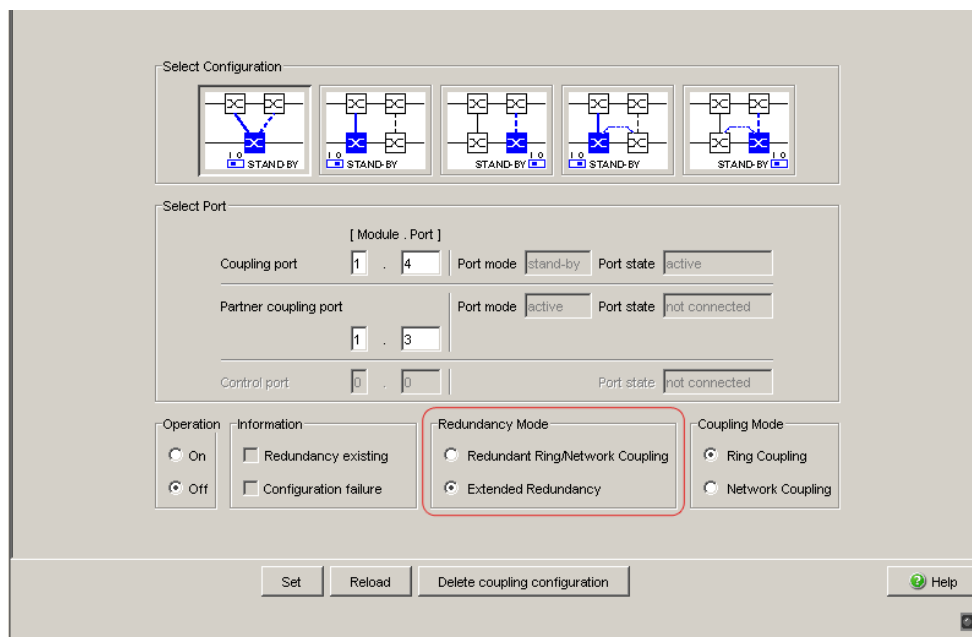

Figure 11: Selecting the redundancy mode
- ☐ In the “Redundancy Mode” frame, select (see fig. 11)